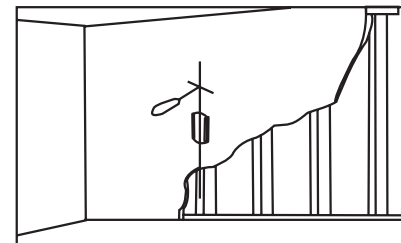
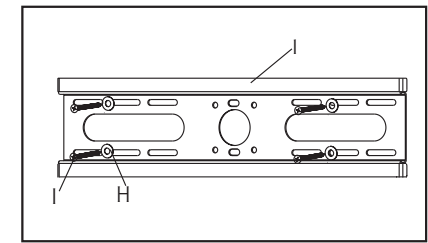

Fig 2b
Fig 2c
Using a awl or nail to make where the nails are located, as shown as fig.2b. Pre-drill these holes with a 3mm drill bit to at least 50mm in deep hole. Please make sure these holes are level and located at center. Use wall mount as a template to mark the location of other three holes and drill the same holes. Fix the wall mount to the wall with 4 long bolts(I) and washers(H), as shown as fig.2c.